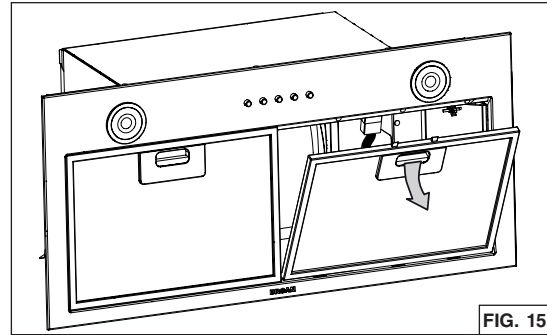

FIG. 15
2. Remove the grease filter(s) by pushing down on latch tab and tilting the filter(s) downward (FIG. 15). Set aside the filter(s).